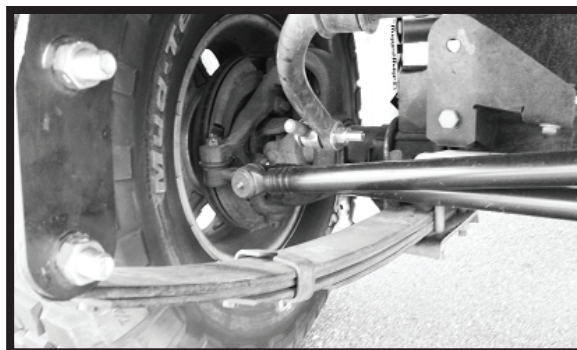

Figure 3
Step 6. Install the drag link (short tube) attaching the fixed end to the passenger side of the center link and the adjustable end to the pitman arm. (Figure 3)